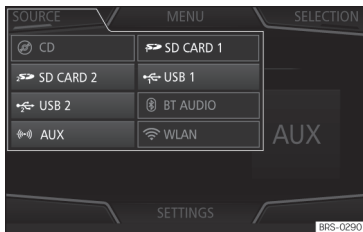

Fig. 169 MEDIA mode: switching media source.
- From the *Media* main menu, press the **SOURCE** function button »» **Fig. 169** and select the desired media source.